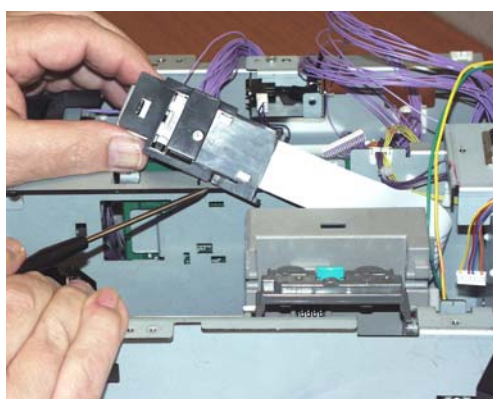

Figure 5-39 Removing Cable Keeper
8. Remove plastic printhead cable keeper. Pull out slightly on bottom tab. To free keeper, pull it carefully towards front of machine. See Figure 5-39, next page.